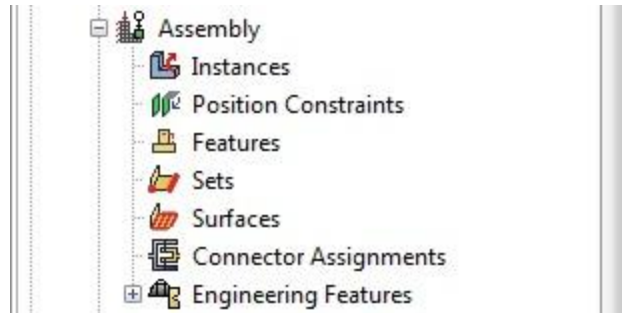

Figure 17. Model Tree Expansion (Assembly)
- Now that the part has been meshed, it can be brought into the assembly. To do this task, click the **+** to the left of **Assembly** in the model tree. The model tree will expand and should look identical to Figure 17.